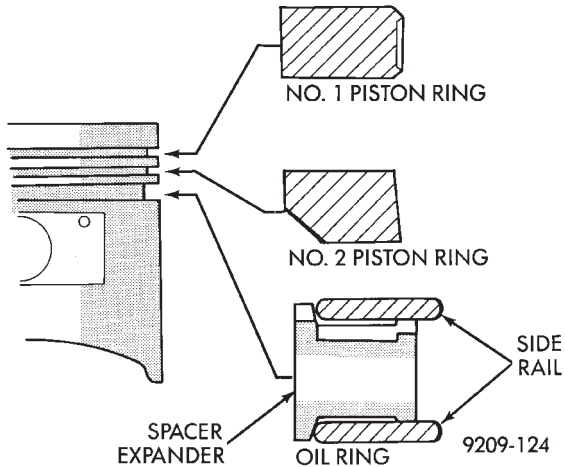

Fig. 62 Piston Ring—Installation
(1) The No. 1 and No. 2 piston rings have a different cross section. Install rings with manufacturers I.D. mark facing up, to the top of the piston (Fig. 62).